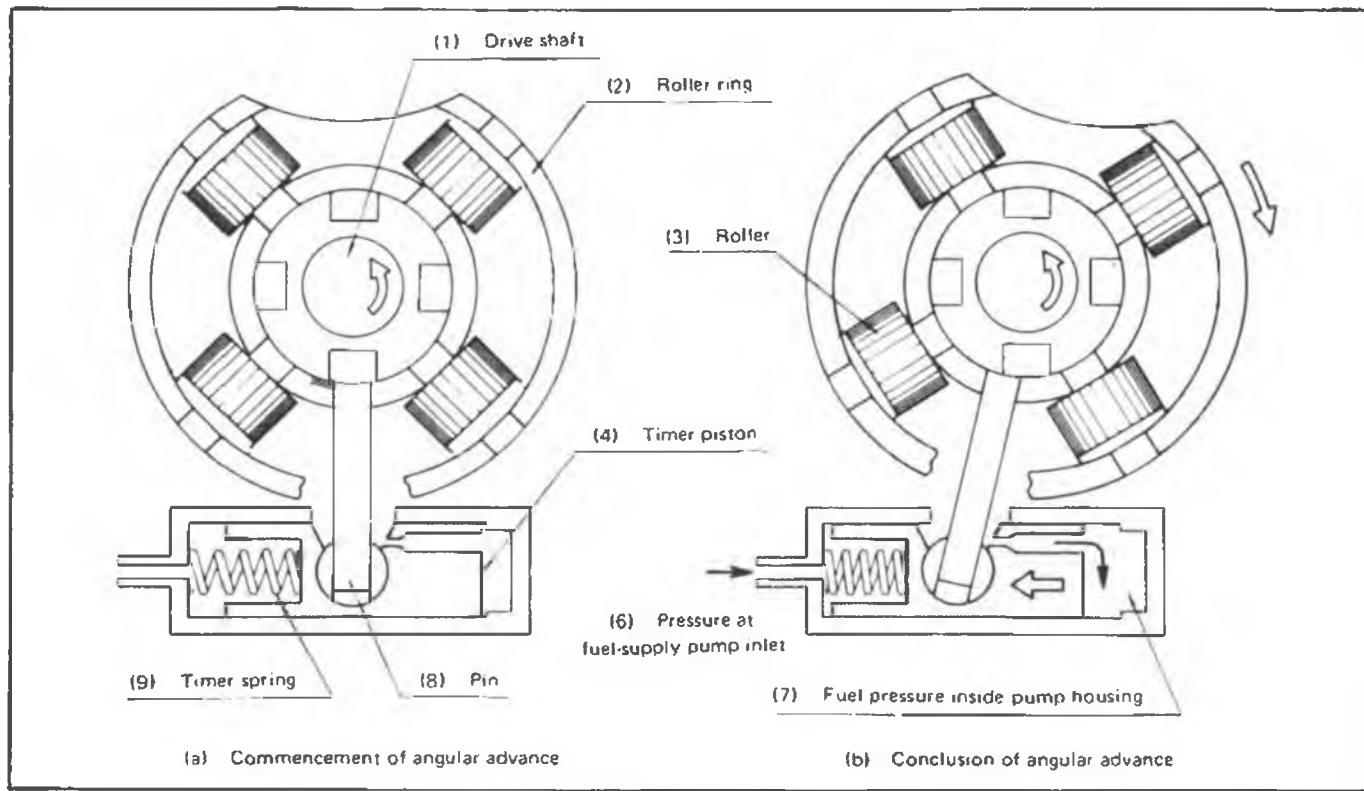
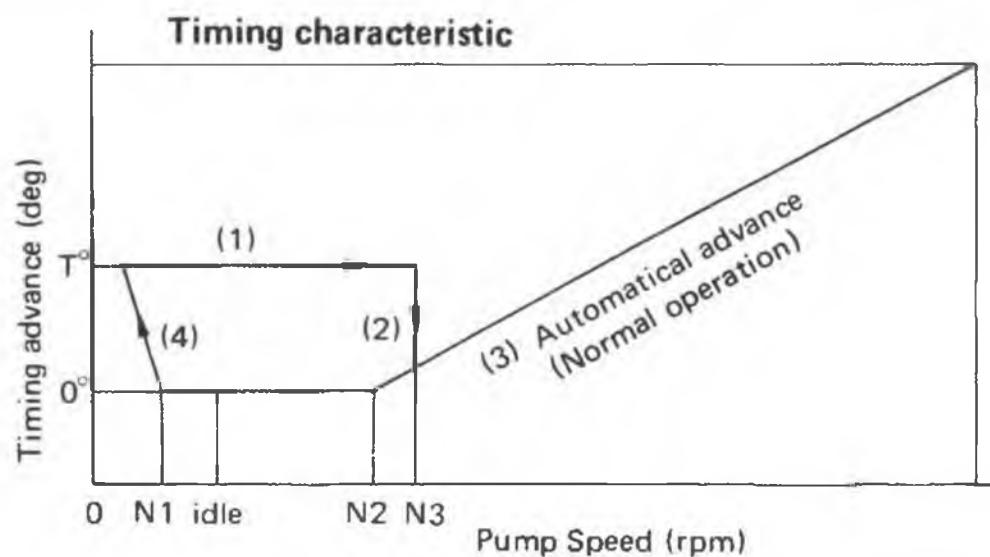

Fig. 4-19 Speed Timer Operation
Fig. 4-20 CSD Performance
SPEED TIMER (Fig. 4-19)
Figure 4-20 gives the CSD performance ranges of the timing characteristics curve.
When engine speed is between 0 and N-1 (700 rpm), the fuel pressure (P) is applied to the surface area "A" in Figure 4-20. This pressure is smaller than the force of the CSD springs. The CSD piston is pushed in the advance direction (towards the left), with the force of the CSD springs. This rotates the roller holder clockwise for the maximum advance angle "T" (6 degrees) shown Figure 4-19.
When engine speed decreases down along Range 3 in Figure 4-20, and approaches idling, the pressure applied to area "B" of the CSD piston falls. Consequently, the CSD spring force will overcome the CSD piston pressure.
This pushes the timer piston to the left, in the advance direction. In other words, the injection timing will advance along Range 4 in Figure 4-20 until it reaches an angle of T degrees (6 degrees). Thus, the CSD returns to the engaged position.